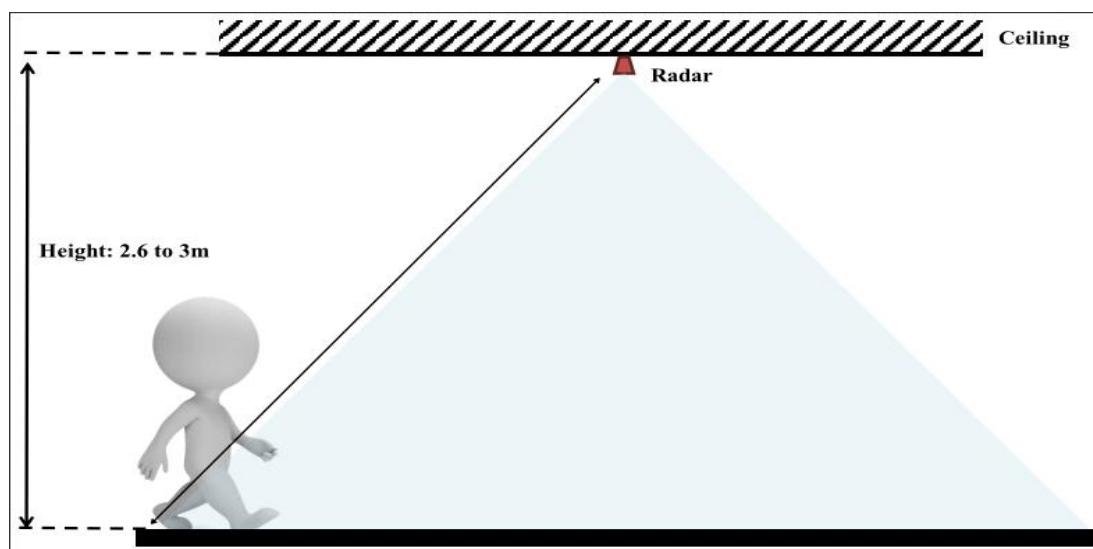

Figure 7 Ceiling-Mounted Installation Diagram
- Figures 7 and 8 show the ceiling-mounted installation method.